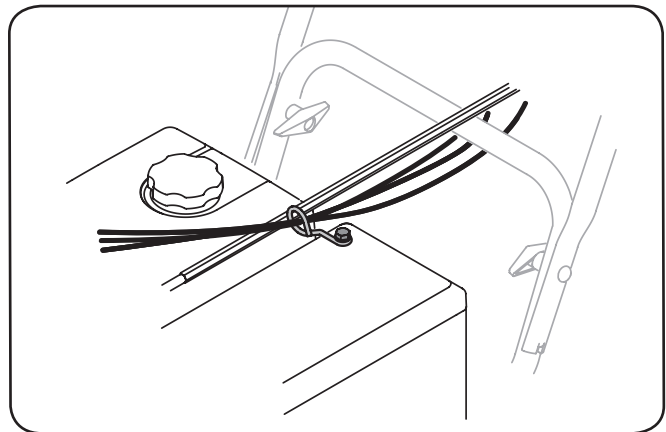

Figure 3-8
- Check that all cables are properly routed through the cable guide on the right side of the chute crank rod. See Figure 3-8.